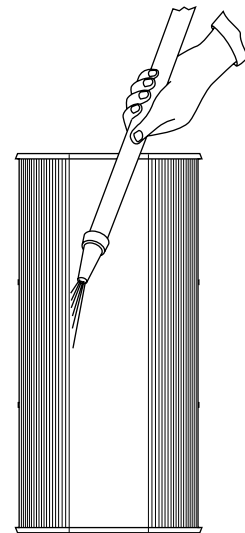

Figure 14
4. Repeat wash down process for inside of filter element. Hold nozzle as close to inside of pleats as possible (See Figure 14).